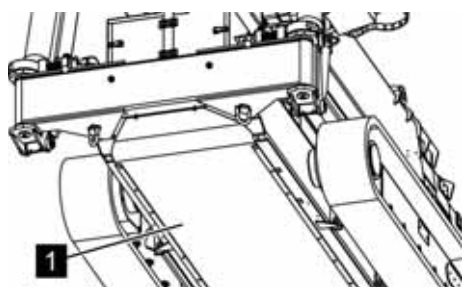

Fig. 148: Fastening the bottom plate
9. ➤ Screw the bottom plate (Fig. 148/1) tight.